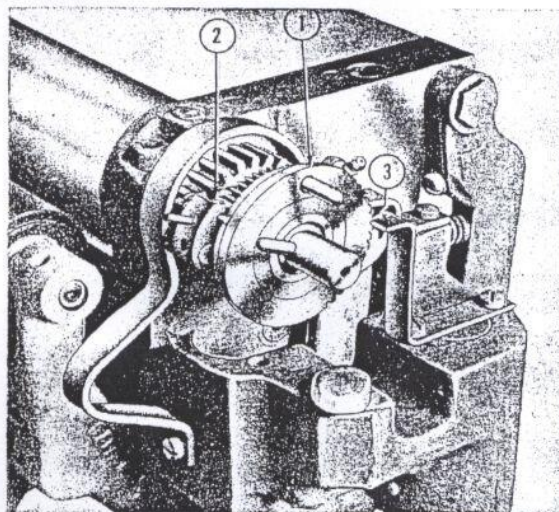

Figure 30—Fountain Blade Roller Feed Setting
(2) HOW TO SET FOUNTAIN ROLLER FEED. (See figure 30.)—The fountain roller is geared and timed to turn slightly with each press impression. The amount that the roller turns is determined by the setting of a cam set-wheel (1) which controls the movement of the fountain roller pawl and ratchet (2). Figure 30 shows the recommended setting (set-wheel spring (3) engaged in eighth notch of set wheel) when starting a job. With set wheel in this position, each notch in set wheel will represent $\frac{1}{8}$ full ink flow, thereby permitting, by moving the position of the spring, ink flow, to be reduced as low as $\frac{1}{8}$ full flow.